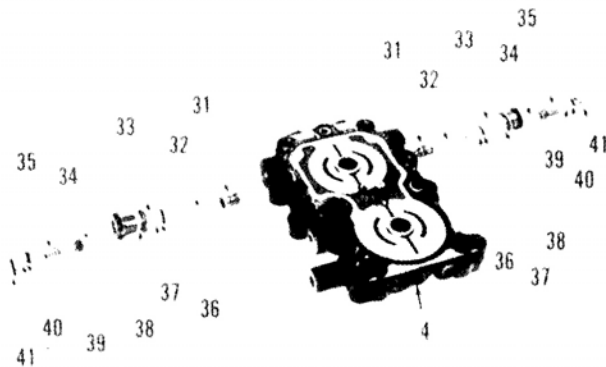

Fig. 64—Exploded view showing neutral and check valve assemblies (forward and reverse) located in port block (4).
Remove forward and reverse neutral and check valves as shown in Fig. 64. Be sure that check valve (31—Fig. 64) moves unrestricted along valve body (33). Inspect all components for heavy scratches, burrs, corrosion, excessive wear and any other damage. If clogged, blow passages of neutral valve (34) and valve body (33) clear with compressed air. Inspect springs (32 and 35) for any deformities and broken coils.